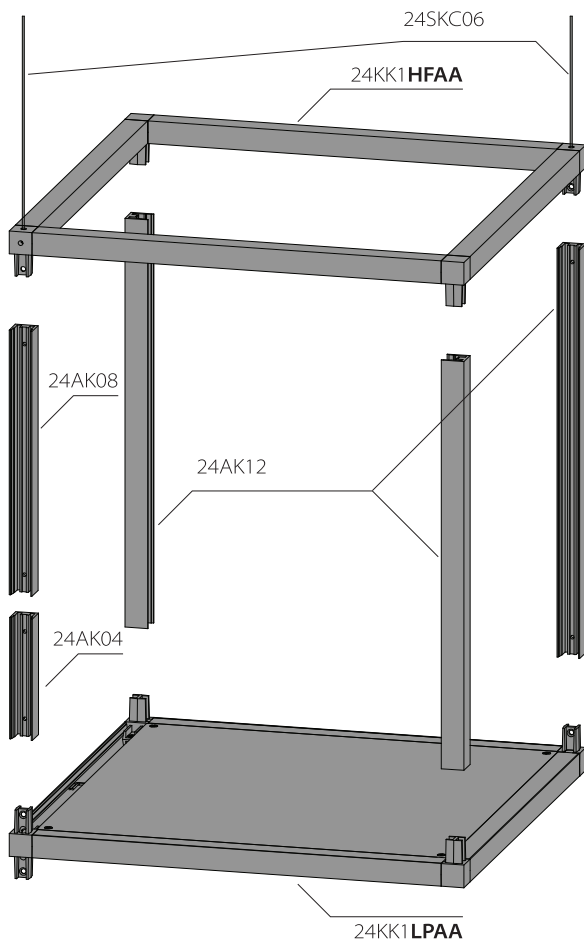

Fig. 3a
- 1a. Install (3x) 24AK12 and (1x) 24AK08 to 24KK1HFAA using countersunk screws in orientation shown in Fig. 3a and 3b. This is how you will install all countersunk screws for the rest of the assembly.
- 1b. Install 24KK1LPAA to other end of Vertical Arms in orientation shown in Fig. 3a. Install 24AK04 to open corner of 24KK1LPAA.